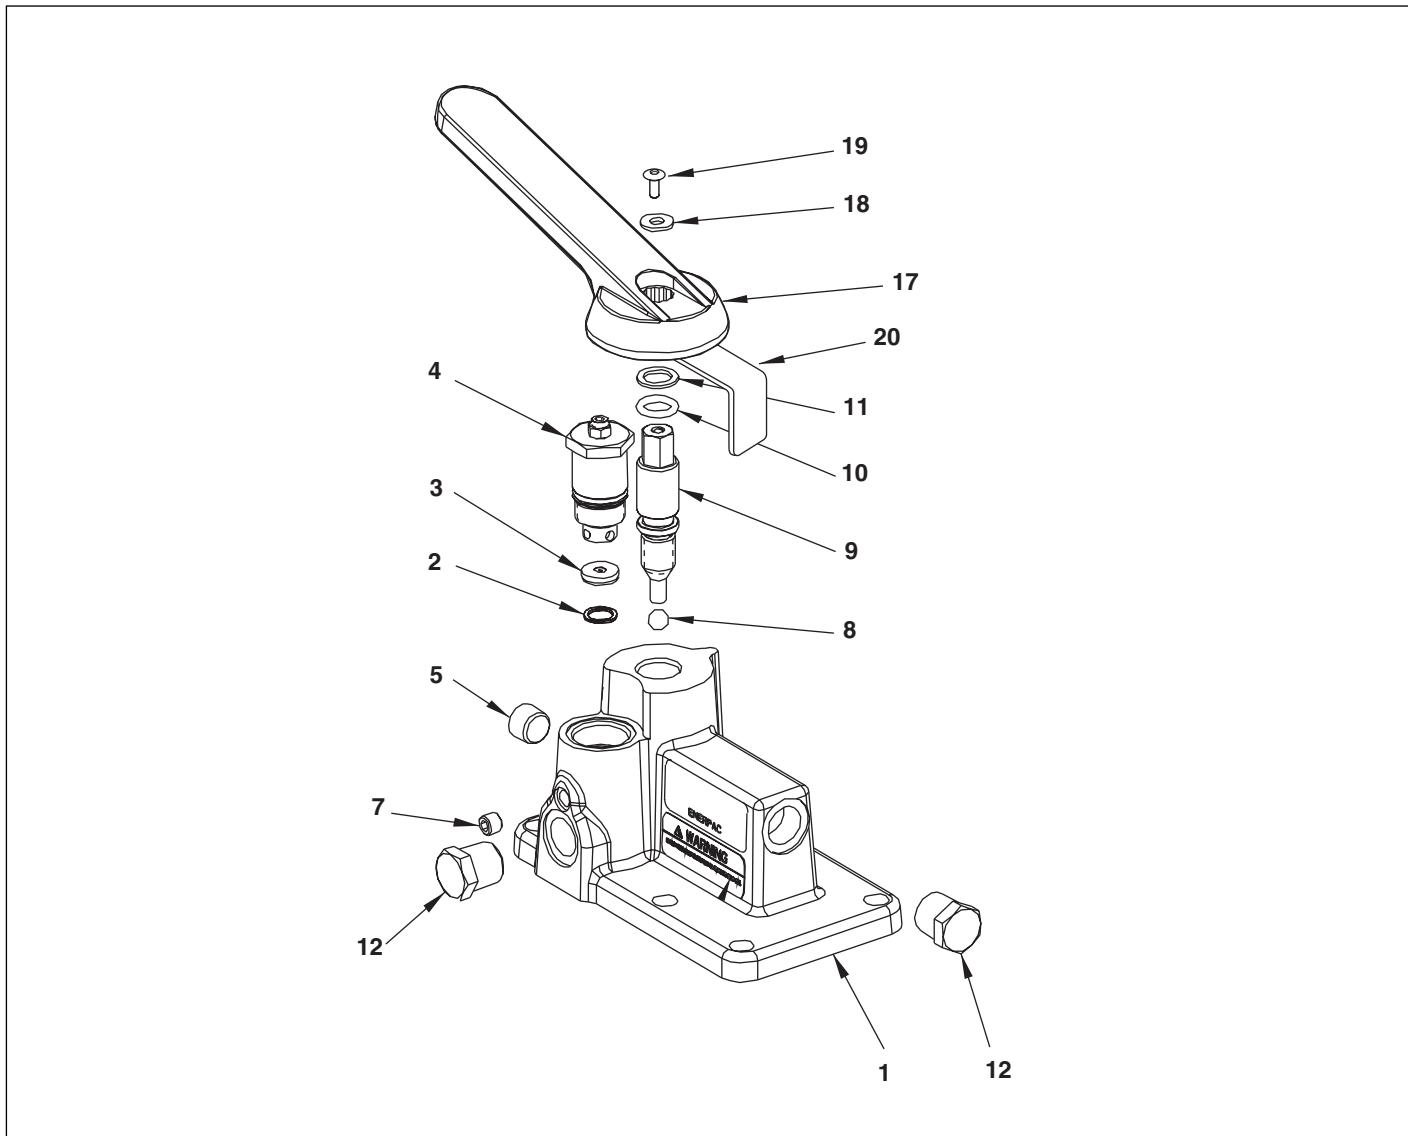
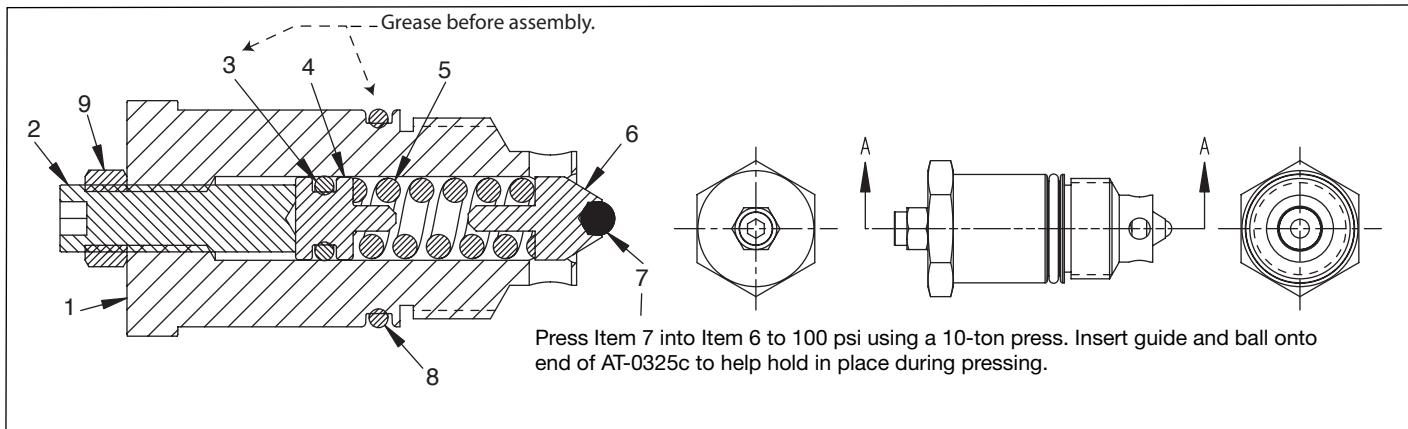

Figure 2, VM32 Manual Valve Assembly
Figure 3, User Adjustable Relief Valve Assembly
Repair Parts List for Figure 2
Repair Parts List for Figure 3
1. Inability to obtain any pressure may be the result of damaged connector seals on the pump, or failed relief valve components (items 6,7 figure 3) or damaged ball (item 8, figure 2). These problems are usually a symptom of contaminated hydraulic oil. The system should be drained and refilled with fresh ENERPAC hydraulic oil.
4. Leakage observed on the external surfaces around the stem (item 9) is an indication that the oring (item 10) and backup ring (item 11, figure 2) needs to be replaced.
5. Leakage observed on the external surfaces around the relief valve body (item 4, figure 2) is an indication that the oring (item 8, figure 3) needs to be replaced.
3. Remove the screw (item 19, figure 2) and washer (item 18) from the stem (item 9).
4. Remove the handle (item 17), retainer (item 20) and unscrew the stem (item 9) from the body (item 1).
5. Inspect the stem for damage from ball (item 8) and replace if needed.
6. Inspect the o-ring (item 10) and backup ring (item 11) for damage. Replace if needed.
8. Loosen lock nut (item 9, figure 3) and unscrew the set screw (item 2, figure 3).
9. Using a 7/8 socket, loosen and remove the relief valve assembly (item 4, figure 2) from the body.
10. Remove the seat(item 3, figure 2) from the body.
12. Inspect the o-ring (item 8, figure 3) for damage and replace if necessary.
13. Inspect the ball (item 7, figure 3) and guide (item 6, figure 3). Replace if necessary. (Note use of tool AT0325C.)
14. Remove the pipe plugs (item 5,6,7, figure 2) and clean the body. Inspect body for damages.
1. Install new pipe plug (item 7, figure 2) and torque to 10-12 ft-lbs [13-16 N m]. Install pipe plug (item 5) and torque to 32-39 ft-lbs [43-52 N m]. Install new pipe plug (item 12) and torque to 10-12 ft-lbs [13-16 Nm],
2. Install copper gasket (item 2) onto seat (item 3), with round edges facing away from the seat.
6. Place ball (item 8) into body.
7. Thread in stem (item 9) with item 10 and 11.
8. Install handle (item 17), retainer (item 20), washer (item 18) and screw (item 19) onto the end of the stem (item 9).
1. Une défaillance au niveau de la pression peut provenir de joints connecteurs endommagés sur la pompe, d'un composant défectueux de la soupape de retour (articles 6 et 7, figure 3) ou une bille endommagées (article 8, figure 2). Ces problèmes indiquent normalement une huile hydraulique contaminée. Le système devrait être vidangé puis rempli avec une huile hydraulique ENERPAC neuve.
4. Une fuite, sur les surfaces externes, autour de la tige (article 9) indique que le joint torique (article 10) et la bague d'appui (article 11, figure 2) ont besoin d'un remplacement.
5. Une fuite, sur les surfaces externes, autour du corps de la soupape de retour (article 4, figure 2) indique que le joint torique (article 8, figure 3) doit être remplacés.
3. Enlever la vis (article 19, figure 2) et la rondelle (article 18) de la tige (article 9)
8. Desserrez l'écrou de blocage (article 9, figure 3) et dévissez la vis de calage (article 2, figure 3).
9. À l'aide d'une douille de 22,2 mm (7/8 po), desserrez et déposez la soupape de retour (article 4 figure 2) du corps.
10. Retirez le siège (article 3, figure 2) du corps.
12. Inspectez le joint torique (article 8, figure 3) pour tout signe de dommages et remplacez le cas échéant.
13. Inspectez la bille (article 7, figure 3) et le guide (article 6, figure 3). Remplacez-les cas échéant. (Ne pas utiliser l'outil AT0325C).
14. Déposez les capuchons du tuyau (articles 5-6-7, figure 2) et nettoyez le corps. Inspectez le corps pour tout signe de dommages.